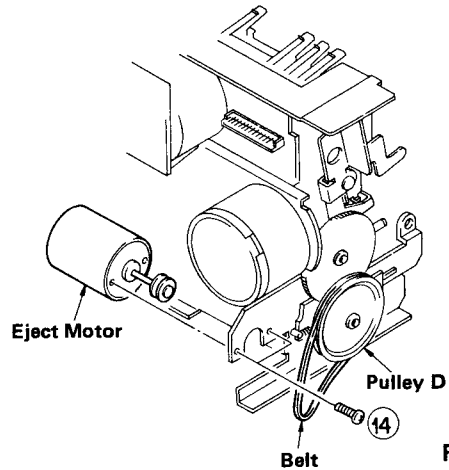

Fig. 10
- b. If you will remove 2 screws (14) of Fig. 10, Eject Motor is taken off.